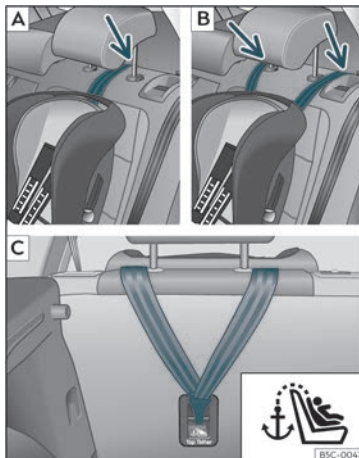
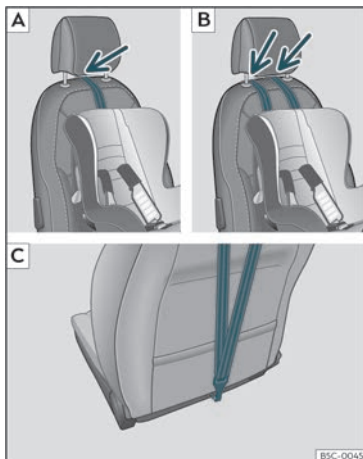

Fig. 29 Rear seats: adjustment and assembly according to the Top Tether belt.
Fig. 30 Front passenger seat: adjustment and assembly according to the Top Tether belt.
lift or remove the headrest if necessary) >>> Fig. 29 [A/B], >>> Fig. 30 [A/B].
- Slide the strap and secure it properly with the anchorage of the backrest >>> Fig. 29 [C], >>> Fig. 30 [C].